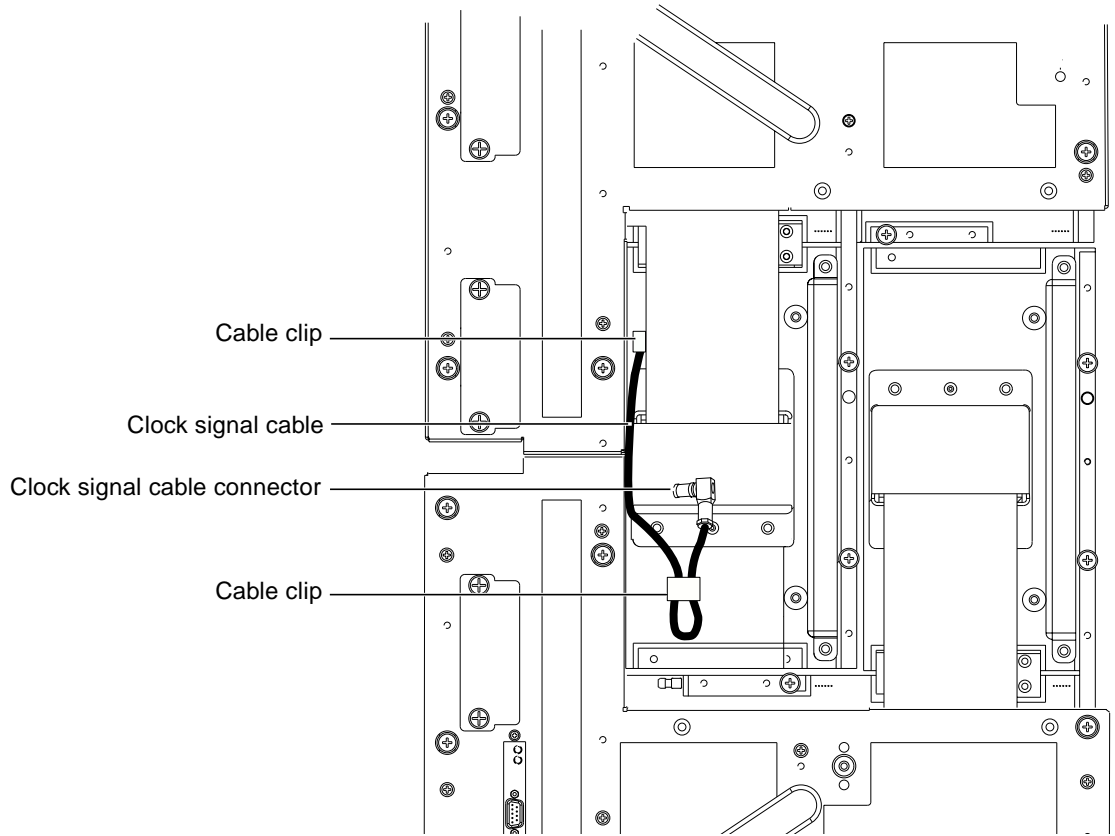

FIGURE 11 Securing the Clock Signal Cable
- Secure the cable using the cable clip provided, as shown in FIGURE 11.